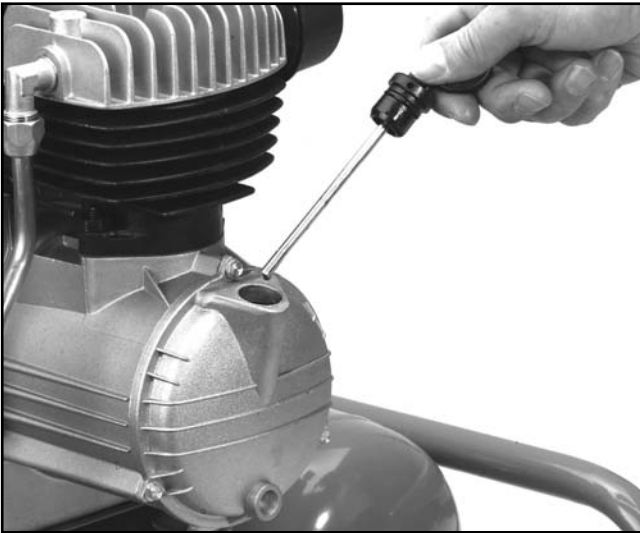

Fig 2. Oil sump and dipstick.
3. Place the oil dipstick into the opening of the casing and check the oil level in the motor crankcase. **See Figure 2.** Each motor requires approximately 100 cc or 3.5 fluid ounces of compressor oil (ISO 100 or SAE 30W viscosity, non-detergent). Make certain the oil is at the full indicator level on the dipstick.